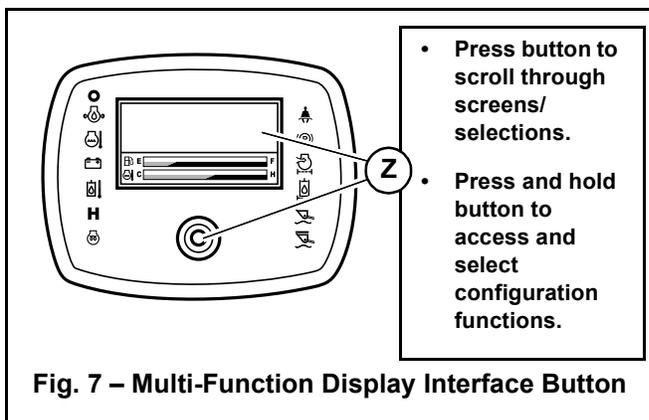

Fig. 7 – Multi-Function Display Interface Button
Press and release the multi-function display interface button (Z, Fig 7) to scroll through the status screens and any current error or maintenance required screens.
<p>Coolant Temperature Screen</p> <p>Default screen when no error codes are active.</p> <p>Press and release interface button (Z, Fig. 7) as many times as required to access this screen. Displays coolant temperature in “°F” or “°C”, depending upon units selected in Temperature Units Configuration screen (M).</p>
<p>Engine RPMs Screen</p> <p>Press and release interface button (Z, Fig. 7) as many times as required to access this screen. Displays engine crankshaft revolutions per minute.</p>
<p>Battery Voltage Screen</p> <p>Press and release interface button (Z, Fig. 7) as many times as required to access this screen. Displays battery charge in volts.</p>
<p>Accumulated Service Hours Screen</p> <p>Press and release interface button (Z, Fig. 7) as many times as required to access this screen. Displays accumulated operation time in hours. Time accumulates when engine is running.</p>
<p>Maintenance Required Screen Displays in the screen rotation along with status screens when scheduled maintenance is required. See page "Maintenance Schedule" on page 100. To dismiss this screen, press and hold the interface button (Z, Fig. 7). This screen will display in rotation when scrolling through the status screens. After 1 full rotation of all screens, the display will freeze on this screen, until the machine is shut-down and started back up.</p>
<p>Configuration Selection Screens</p> <p>To access these screens, press and hold interface button (Z, Fig. 7) for 5 seconds.</p> <p>Press and release interface button (Z, Fig. 7) to move selection caret (A) down through the configuration selections. Press and hold interface button for 5 seconds to go to the configuration screen selected by selection caret (A).</p> <p>To exit the configuration selection screens, move selection caret (A) to the “EXIT” option and press and hold interface button for 5 seconds.</p>
<p>Control Sensitivity Configuration Screen</p> <p>To change joystick control sensitivity, press and release interface button (Z, Fig. 7) to scroll through selections and change control sensitivity. With the caret closer to the  symbol, joystick control becomes increasingly aggressive and immediate; with the caret closer to the  symbol, joystick control becomes less aggressive and more relaxed.</p> <p>Control sensitivity configuration changes are saved when exiting this screen. To exit this screen, press and hold interface button for 5 seconds.</p>
<p>Travel Speed Limit Configuration Screen (Option)</p> <p>This screen displays only on machines equipped with the speed limit option. Press and release interface button (Z, Fig. 7) to choose between H-L (high/low) or speed limit travel drive modes. See “Travel Speed Range Selection” on page 57 for more information about the travel speed limit option.</p> <p>Vehicle speed limit configuration changes are saved when exiting this screen. To exit this screen, press and hold interface button for 5 seconds.</p>
<p>Control Joystick ISO/D-H Pattern Selection Screen (Option)</p> <p>This screen displays only on machines equipped with the D-H control pattern option. Press and release interface button (Z, Fig. 7) to choose between ISO or D-H joystick control options. See “Control Joysticks” on page 50 for more information about the ISO and D-H control options.</p> <p>Control joystick pattern configuration changes are saved when exiting this screen. To exit this screen, press and hold interface button for 5 seconds.</p>
<p>Coolant Temperature °F/°C Units Selection Screen</p> <p>Press and release interface button (Z, Fig. 7) to choose between coolant temperature display options (°F/°C).</p> <p>Coolant temperature units configuration changes are saved when exiting this screen. To exit this screen, press and hold interface button for 5 seconds.</p>
<p>Higher Contrast Lower Contrast</p>	<p>Display Screen Contrast Configuration Screen</p> <p>Press and release interface button (Z, Fig. 7) to adjust the screen contrast.</p> <p>Screen contrast changes are saved when exiting this screen. To exit this screen, press and hold interface button for 5 seconds.</p>
<p>Display Screen Font Size Configuration Screen</p> <p>Press and release interface button (Z, Fig. 7) to adjust the font size.</p> <p>Font size changes are saved when exiting this screen. To exit this screen, press and hold interface button for 5 seconds.</p>
<p>Changes Display in Lower Ambient Light Changes Display in Higher Ambient Light</p> <p>(NIGHT-TIME MODE) (DAY-TIME MODE)</p> <p>Pointer Indicates Current Ambient Light Level</p>	<p>Night/Day Display Change Configuration Screen</p> <p>To maximize display visibility, the display changes between a black-on-white display and a white-on-black display, depending upon the intensity of ambient light. The set point where this change occurs can be adjusted using this screen.</p> <p>Press and release interface button (Z, Fig. 7) to adjust the night/day display change set point. When the caret is closer to the ☀ symbol, the display changes in brighter ambient light; when it is closer to the 🌙 symbol, the display changes in lower ambient light.</p> <p>Night/day display configuration changes are saved when exiting this screen. To exit this screen, press and hold interface button for 5 seconds.</p>